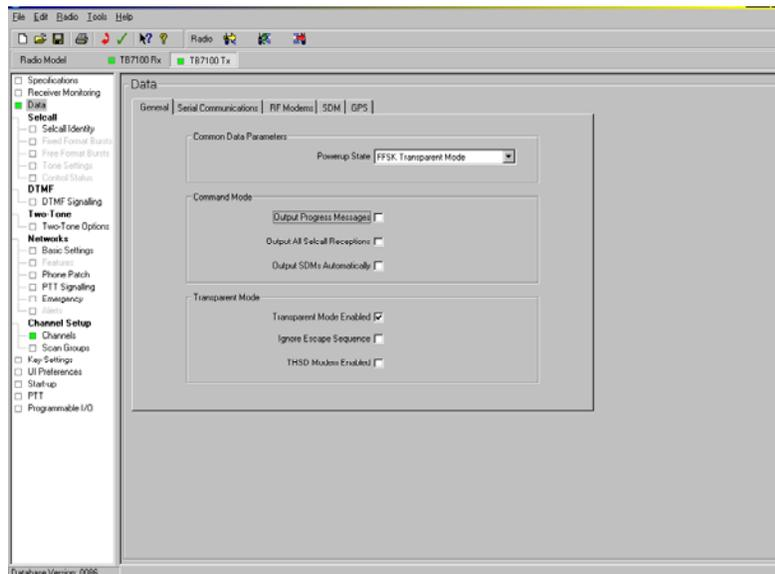

Figure 8
- Under Data>General set the 'Power up State' for 'FFSK Transparent Mode' and select 'Transparent Mode Enabled'. Leave all other options unselected. Refer to figure 8.